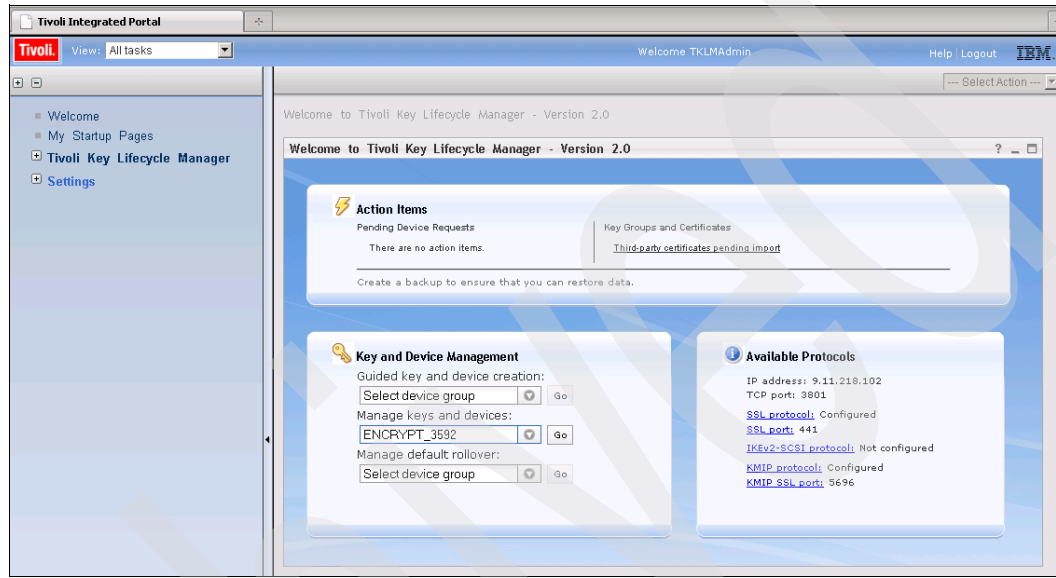

Figure 9-54 Managed key and devices with drop down selection
2. Select the correct device group in the **Managed key and devices** drop-down list and click **Go** (Figure 9-54 on page 192).